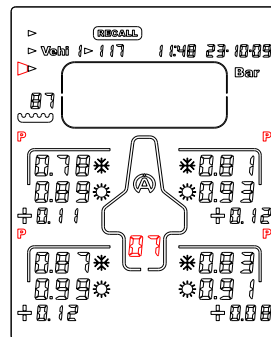

Figure 10
4) With the button  or , select the « **FACE** » (figure 10)
On the example « Figure 10 », the Tyrecontrol displays for the vehicle 1, the first phase of data of the last « Set » recorded, that is to say the tires pressures before  and after  race + the gaps.